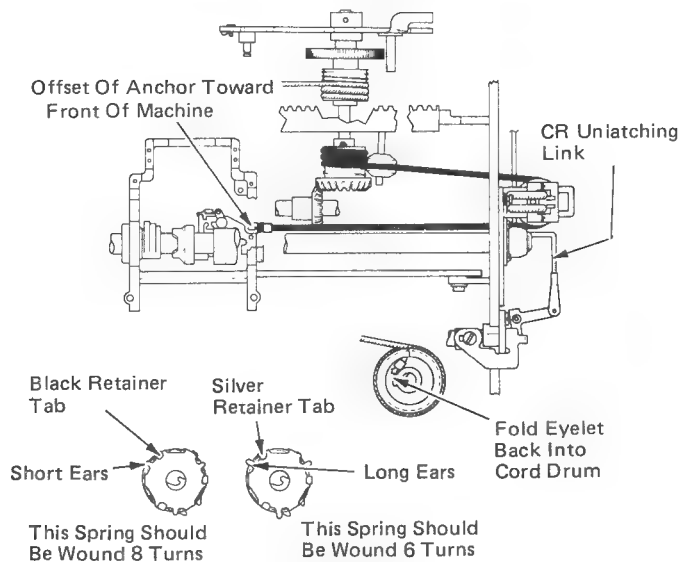

Figure 3
2. Manually latch the carrier return and turn the turning wheel while counting the number of rotations of the escapement shaft, until the mainspring is wound the proper number of turns (Figure 3).
3. With the carrier all the way to the left, connect the tab cord to the carrier and position the cord through the right power frame and around the transport pulley; then connect it to the front drum (Figure 3). It is not necessary to wind the cord around the drum. With the cord attached to both ends, unlatch the carrier return and guide the cord on the drum while rotating turning wheel. (This will wind the rest of the cord on the drum.) Then place the cord on the cord idler pulley (Figure 1).